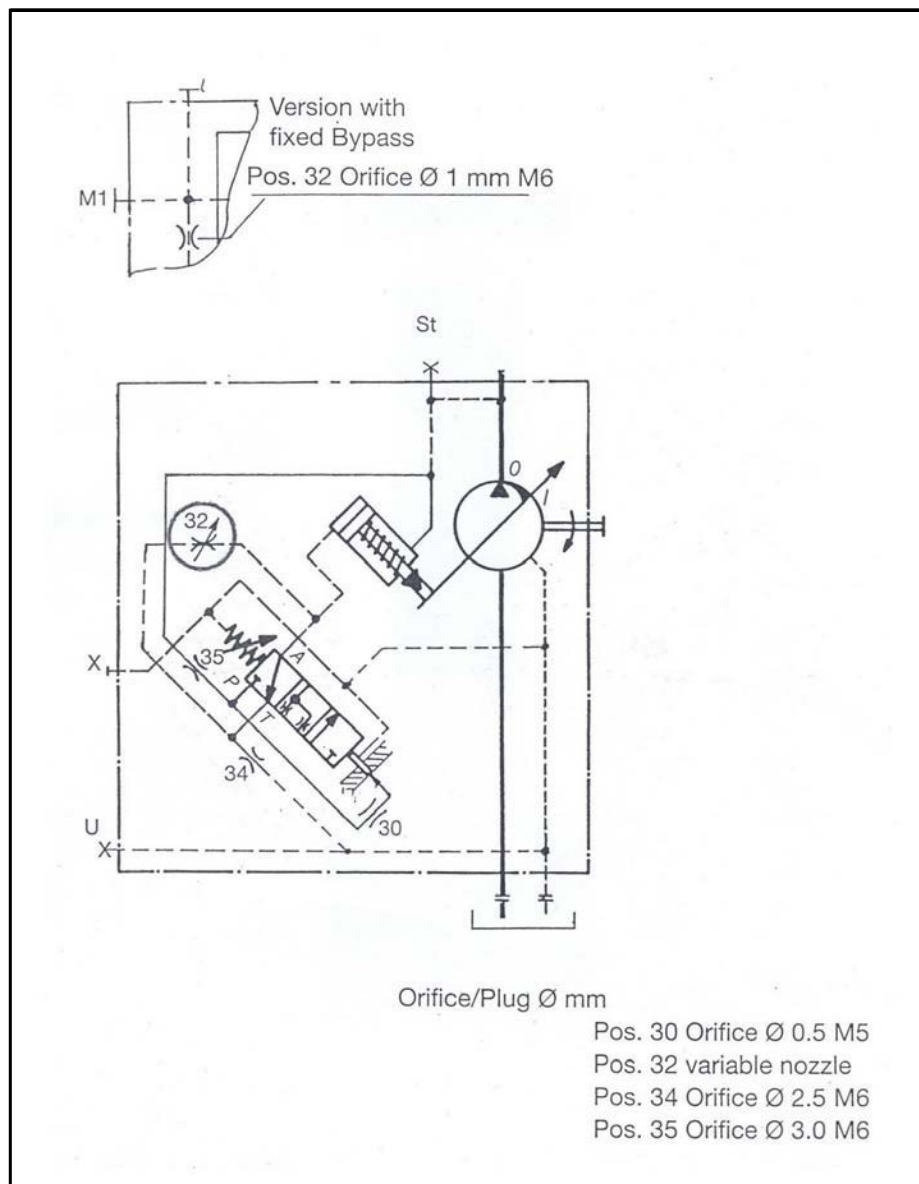

Fig 5. Hydraulic circuit of "Pressure Regulator N"
- ① Set "LS-32 nozzle" and "N-32 nozzle".(Refer to Fig. 5)